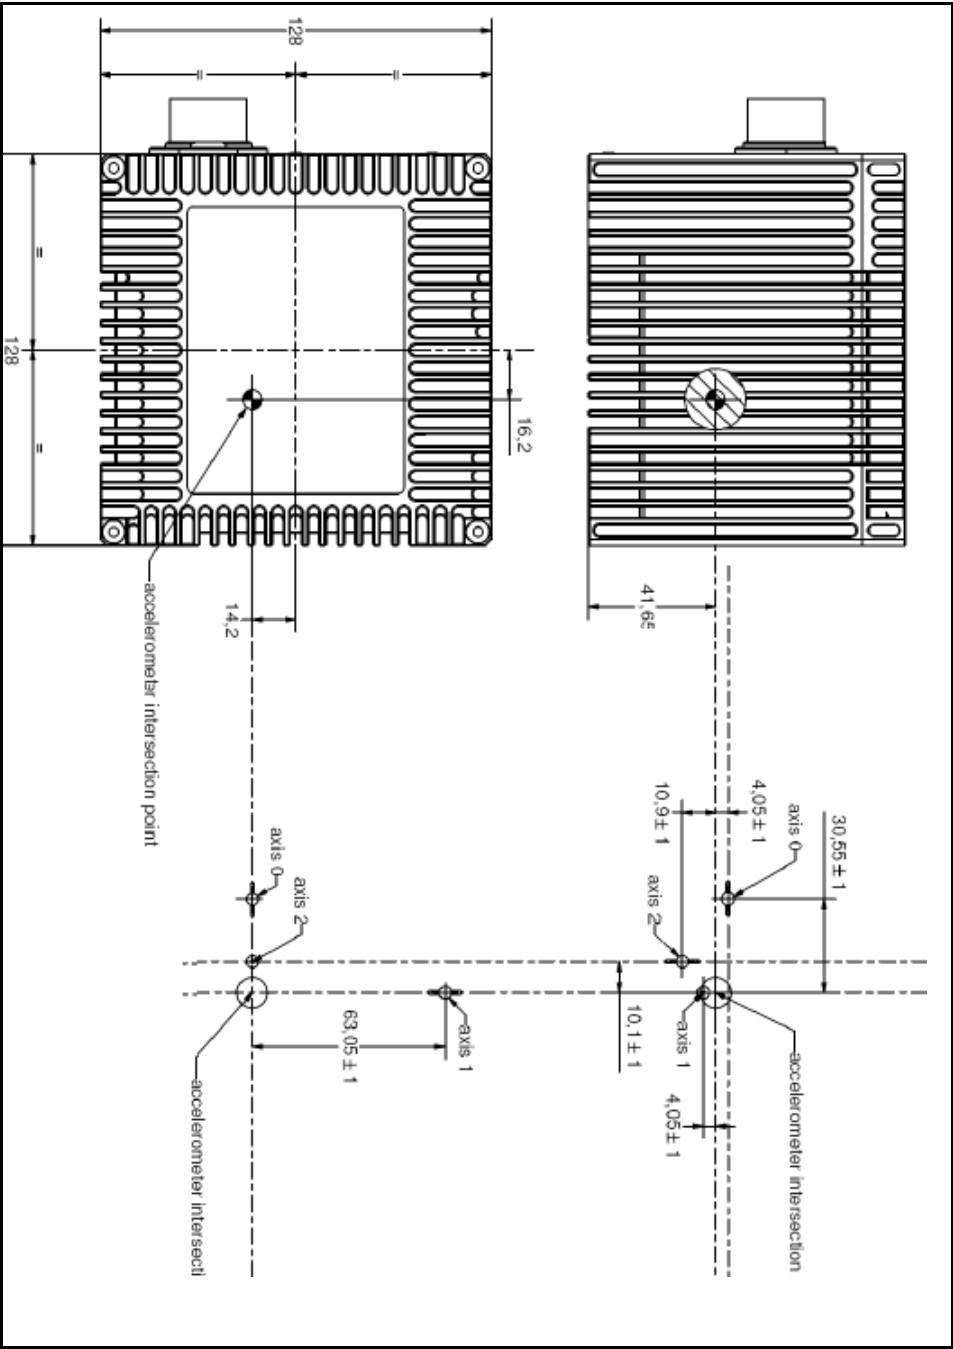

Figure 27: IMU-FSAS Centre of Navigation
- a. See Figure 27 on page 77 for the centre of navigation dimensions